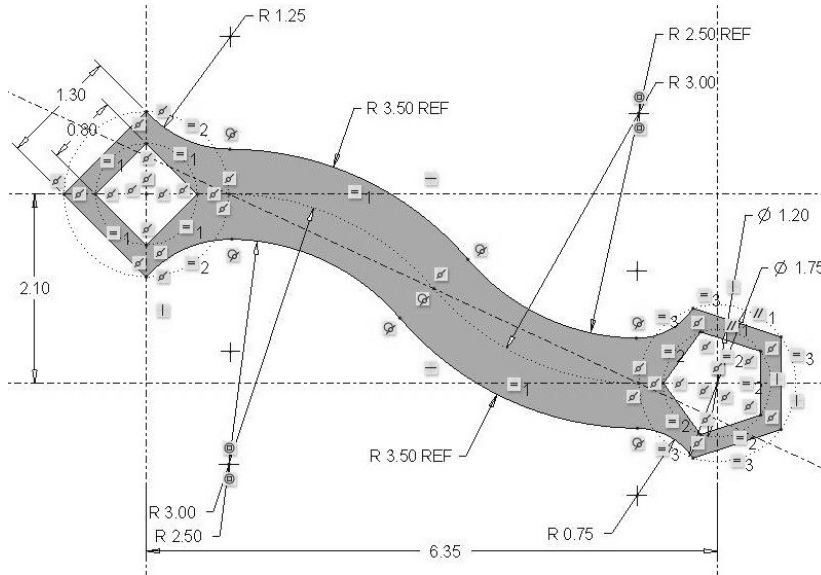

Figure 3-80 Problem 11—Special S Wrench
- 3.11 Challenge problem** - Draw the "Special_S-wrench" (Figure 3-80). **Design Intent** — All arcs are tangent to each other and the edges of the two end shapes. The diamond shape is 1.30 inches per side. The outer pentagon fits inside a circle of 1.75 inches in diameter. The inner pentagon uses a 1.20-inch diameter circle. The 3-inch radius centerline is tangent at both ends and at its midpoint. The 0.75, 2.50, and 3.50 radius arcs are tangent to each other. (>File>Options>Sketcher, change to 2-decimal places before sketching.)